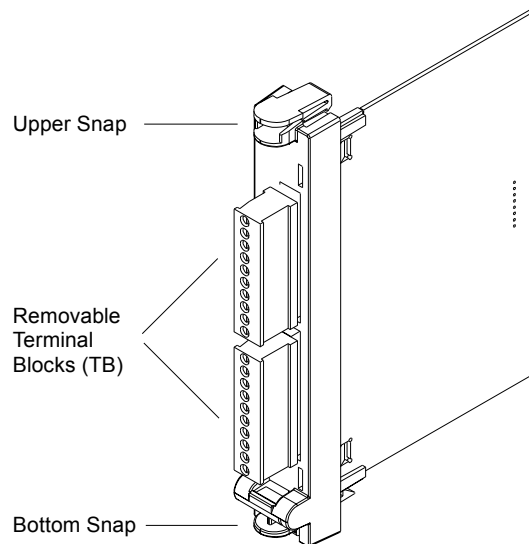

Figure 27
The 16 Digital Input (DI) (see Figure 27) can receive up to 16 isolated status inputs from the user equipment. The 16 DI module transfers the data to the CPU module.